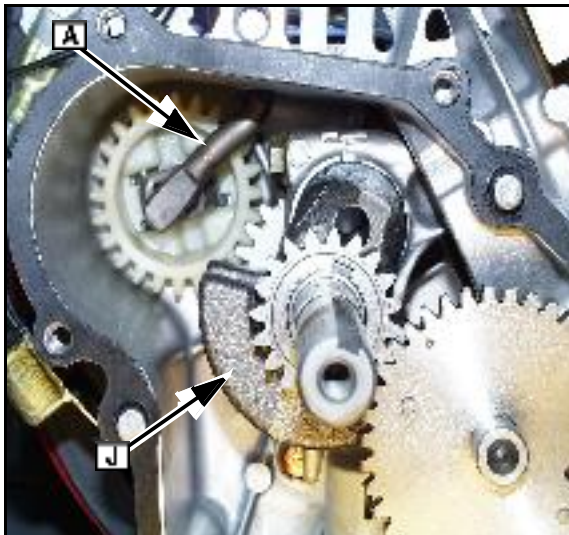

Fig. 7
7. Rotate the engine crankshaft so the counter weight ([J] Fig. 7) is in position shown.
9. Push governor crank ([A] Fig. 7) down into the cylinder housing and remove.